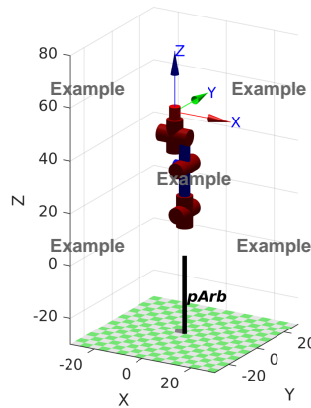

Figure 1: Plot of **pArb** in the zero configuration.
- Using the DH parameters and the Robotics Toolbox, create the model of the robotic arm (name the arm **pArb**). Then plot it in the zero (like in Fig. 1) and in a random configuration (*Hint*: to modellize the gripper try the command **pArb.tool**).